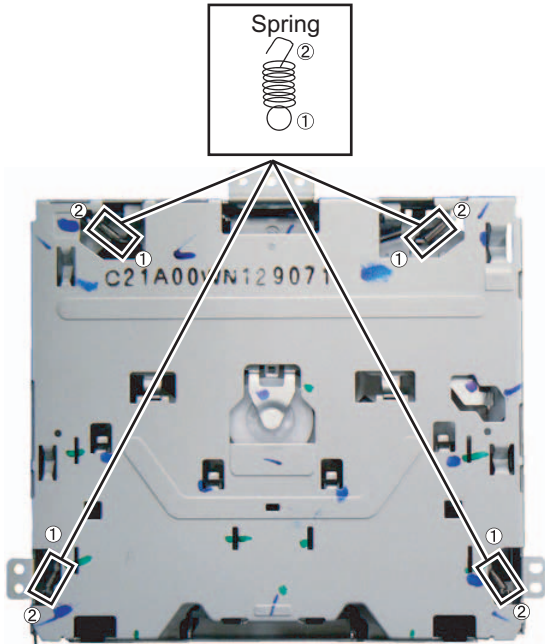

Fig.4
3.2.2 Removing the Traverse mechanism (See Fig.4, 5)
(See Fig.4)